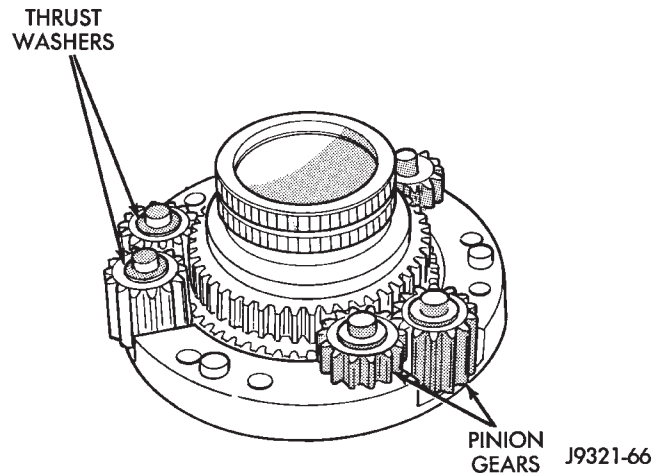

Fig. 71 Pinion Gear And Thrust Washer Installation
(5) Install pinion gears on carrier pins (Fig. 71). Be sure short and long gears are installed on correct pins.
(6) Install remaining set of thrust washers on carrier pins and on top of pinion gears (Fig. 71).